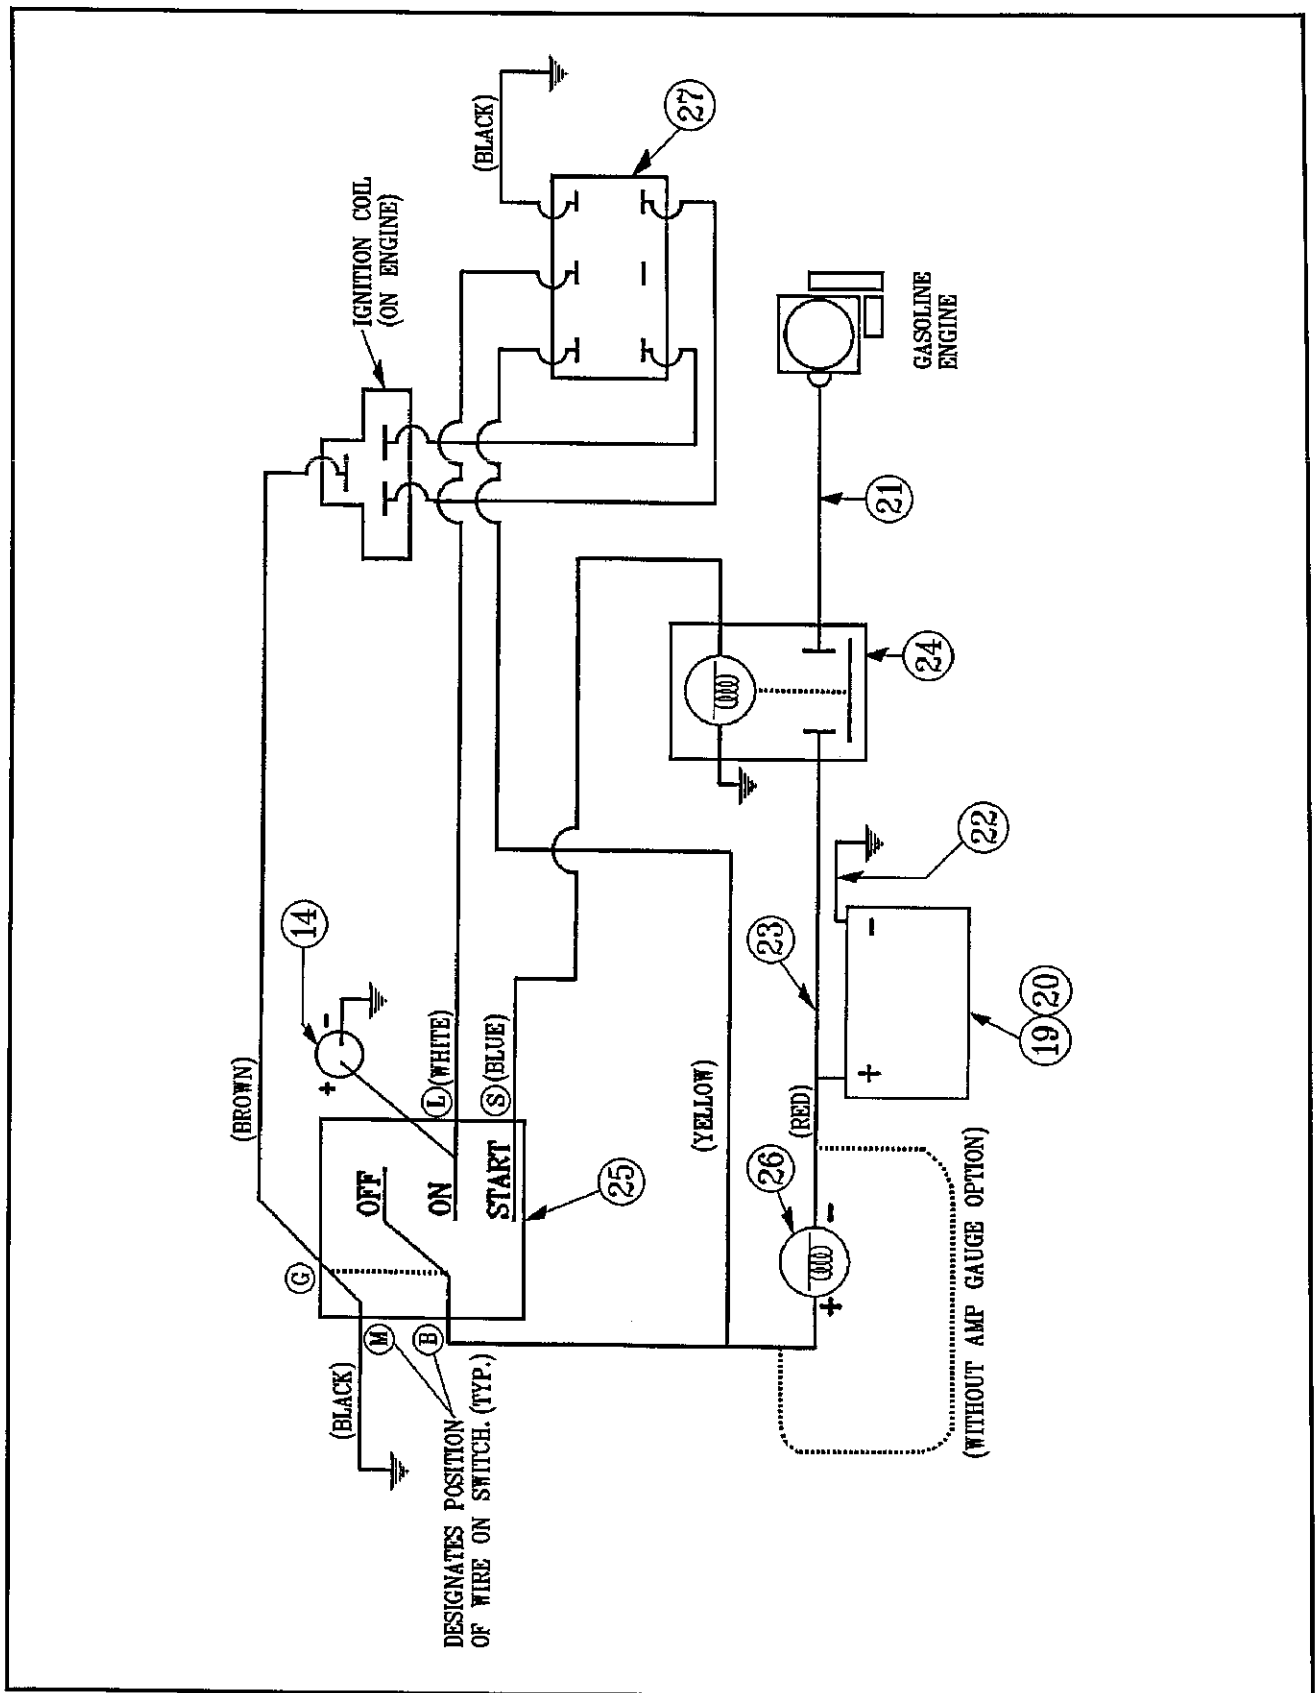

FIG. 8-13 HYDRAULIC POWER SUPPLY ELECTRICAL SCHEMATIC
** ALL WIRES ARE TO BE 14 AWG UNLESS GIVEN A SPECIFIC PART NUMBER. COLORS ARE NOTED IN FIG. 8-13. QUANTITY IS AS REQUIRED.